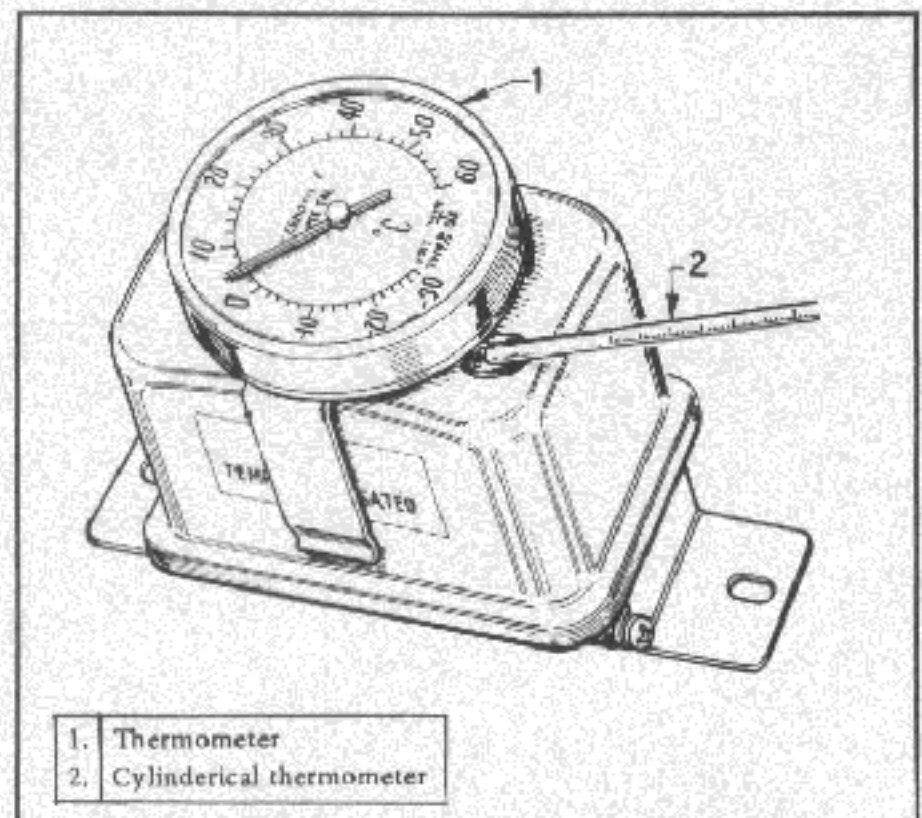

Fig. EE-68 Measuring of regulator cover temperature
In this case, use the thermometer (90196-0001P) or cylindrical thermometer with putty as shown in Figure EE-68.
2. Measure the temperature of regulator cover as shown in Figure EE-68. (RQ2220B)